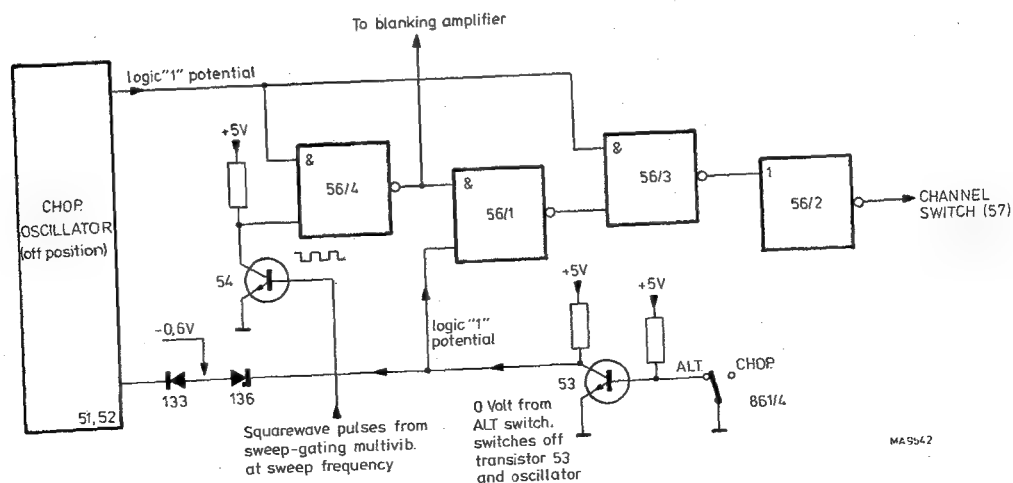

Fig. 3.5. Vertical channel switching - ALT mode
- During the time that transistor 53 is not conducting the CHOP oscillator is switched off (see Fig. 3.5).